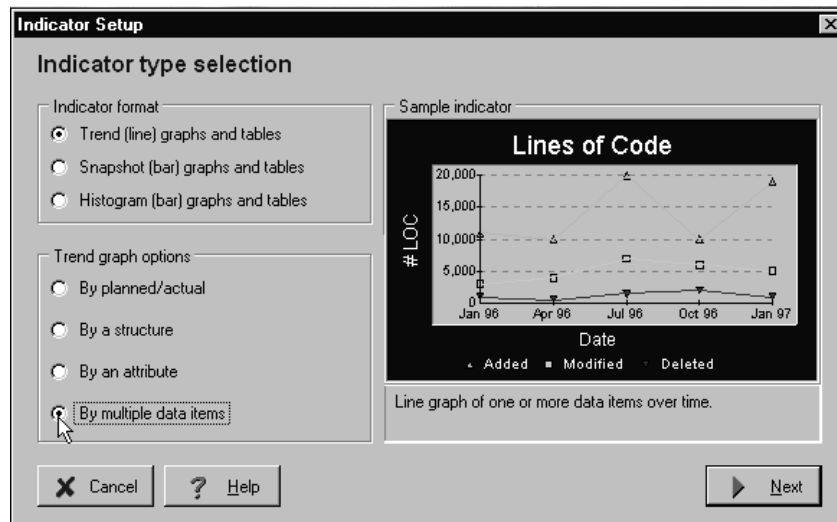

Figure 11. Select from trend, snapshot, and histogram graphs and tables.
**Step 1:** Click the indicators icon on the main toolbar. A window will display your project issues; select the one to work with. Then, select the indicator type by using the set up window shown in Figure 11. In this example, we will use a trend graph and work with multiple data items.